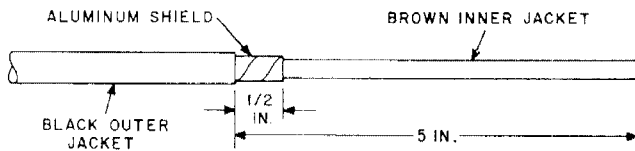

Fig. 7—Strip Outer Jacket and Aluminum Tape
5.03 Remove the aluminum as shown in Fig. 7.